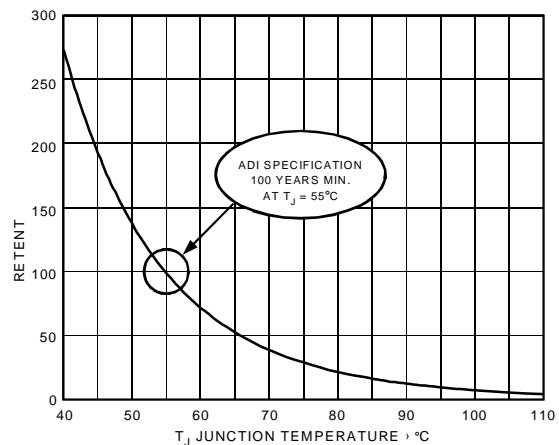

Figure 26. Flash/EE Memory Data Retention
**Retention** quantifies the ability of the Flash/EE memory to retain its programmed data over time. Again, the ADuC834 has been qualified in accordance with the formal JEDEC Retention Lifetime Specification (A117) at a specific junction temperature ( $T_J = 55^\circ\text{C}$ ). As part of this qualification procedure, the Flash/EE memory is cycled to its specified endurance limit described above, before data retention is characterized. This means that the Flash/EE memory is guaranteed to retain its data for its full specified retention lifetime every time the Flash/EE memory is reprogrammed. It should also be noted that retention lifetime, based on an activation energy of 0.6 eV, will derate with  $T_J$  as shown in Figure 26.